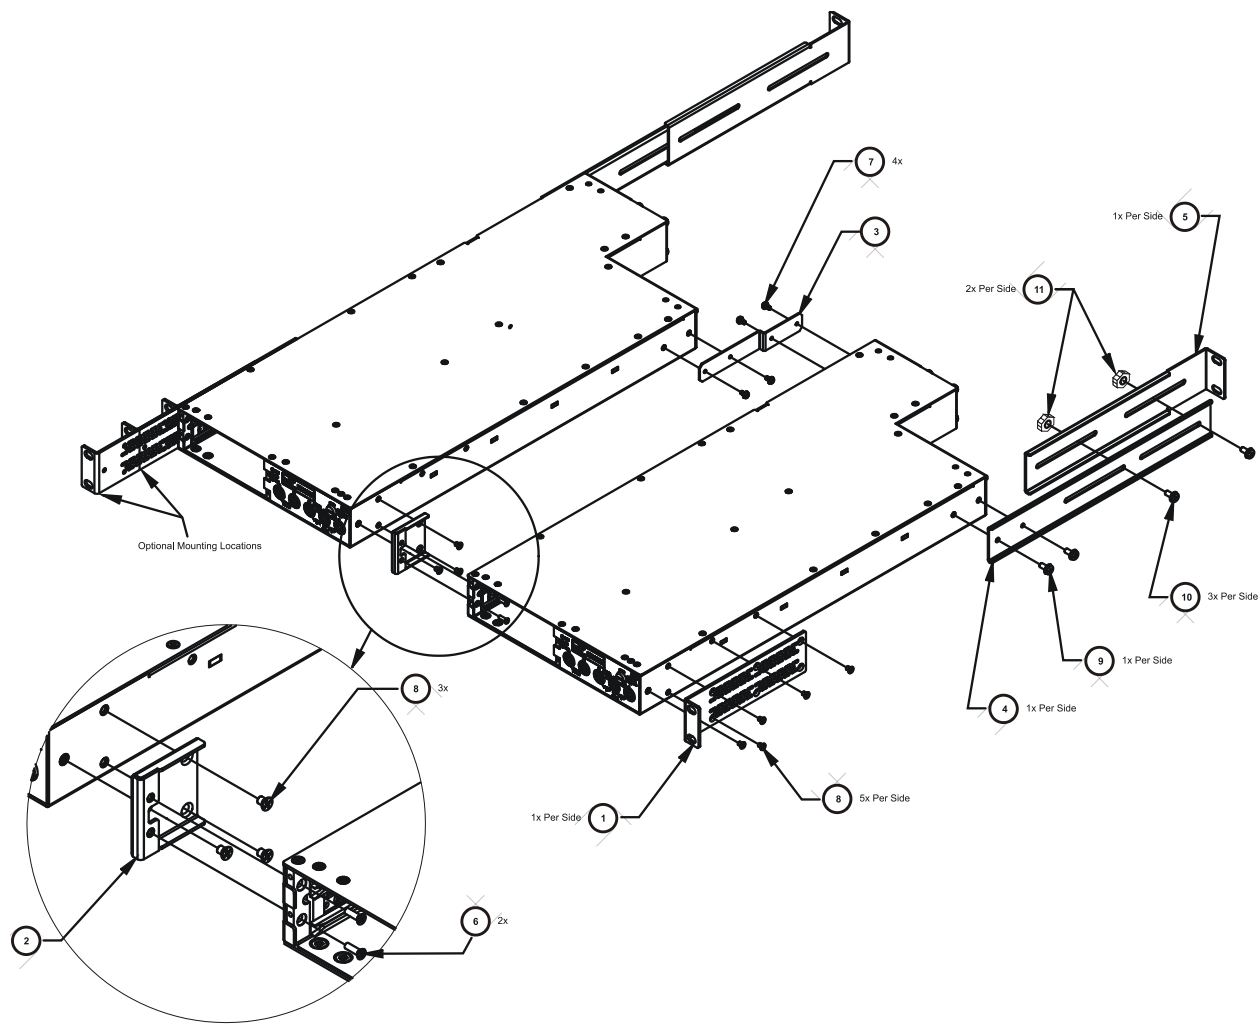

FIGURE 2-7: DUAL HALF RACK INSTALLATION DIAGRAM (EXPLODED FRONT VIEW)
- 2) Using a #2 Phillips screwdriver, install the rack ears (P/N: 41-0482-009) on the front of the EX1202As using five (5) 6-32 x 3/8" flat head Phillips stainless steel screws (P/N: 37-0114-025) for each rack ear. One ear should be installed on the left side of one chassis, while the other ear is installed on the right side of the other chassis. Note that the "Optional Mounting Locations" in Figure 2-7 allow the EX1202A to be installed in a rack either flush or recessed.
- 3) Next, attach a unit support bracket (P/N: 41-0482-011) to each EX1202A using two (2) 6-32 x 3/8" pan head Phillips SEMS screws (P/N: 37-0028-037) for each bracket (see Figure 2-7). Note that the bracket should be installed on the same side as the rack ear installed previously.
- 4) Place the rear rack support brackets (P/N: 41-0482-011) on the inside of the unit support brackets installed in step 3 and loosely secure them using two (2) 8-32 x 3/8" pan head Phillips SEMS screws (P/N: 37-0073-037) and two (2) KEPS hex nuts (P/N: 37-0200-832) per bracket. Loosely installing the hardware will allow the rear support bracket to adjust to the proper length once installed in a rack.
- 5) Install the front mating bracket (P/N: 41-0493-006) on the right side of the EX1202A where the rackmount/support brackets installed on the left using three (3) 6-32 x 3/8" flat head Phillips stainless steel screws (P/N: 37-0114-025).
- 6) Install the rear mating bracket (P/N: 41-0493-007) on the right side of the EX1202A where the front mating bracket was installed previously using two (2) 4-40 x 0.187 pan head Phillips Zinc screws (P/N: 37-0011-018).
- 7) Connect the two EX1202As by installing two (2) 4-40 x 3/8" flat head stainless steel Phillips screws (P/N: 37-0100-037) through the right EX1202A capture the front mounting bracket. Then, use two (2) 4-40 x 0.187 pan head Phillips Zinc screws (P/N: 37-0011-018) to connect the rear mating bracket to the right EX1202A.